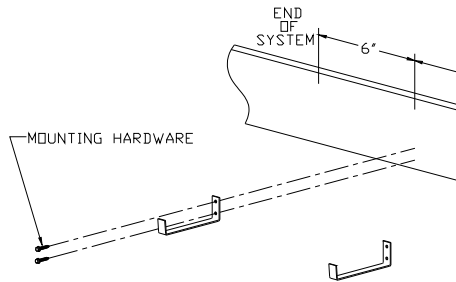
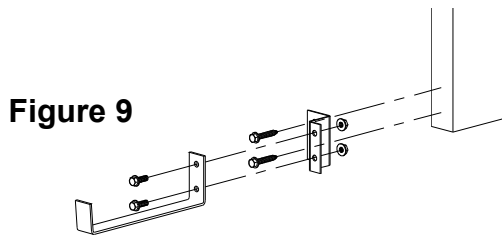

Figure 8
Figure 9
- a. To locate the extruded Kool-Cel[®] floor bracket position on the bottom stringer or wall studs in the absence of stringers for the extruded gutter, refer to placement shown in Figure 8 and 9. The top hole should be 2 inches from the bottom of the stringer or concrete pad. Hole spacing is shown in Figure 8 and Figure 9.